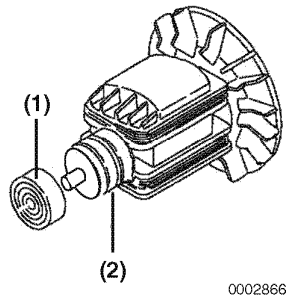

Figure 7-33
1. Inspect the rotor ball bearing (**Figure 7-33, (1)**) for:
1. Inspect the condition of the slip rings (**Figure 7-33, (2)**) for:
2. Measure the diameter of the slip rings (**Figure 7-33, (2)**) for wear. If the wear exceeds the wear limit, replace the rotor assembly